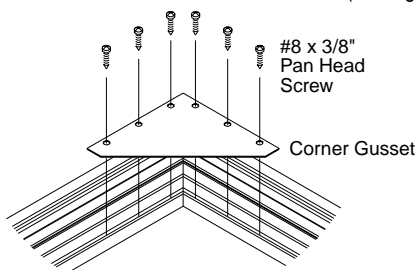

Figure 2
- ④ Place and screw one corner gusset to the inner frame assembly at each corner with (6) #8 x 3/8" pan head screws. Screws pass through pre-punched holes in gussets and thread into screw channel on inner frame (see Fig. 2).